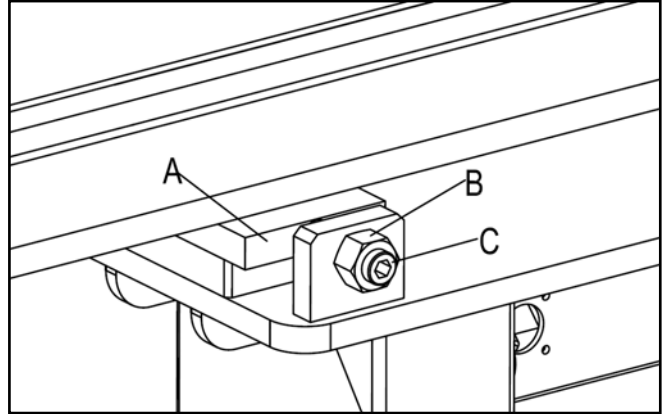

Fig.35
- 5, Loosen nuts B, see **Fig.35**.